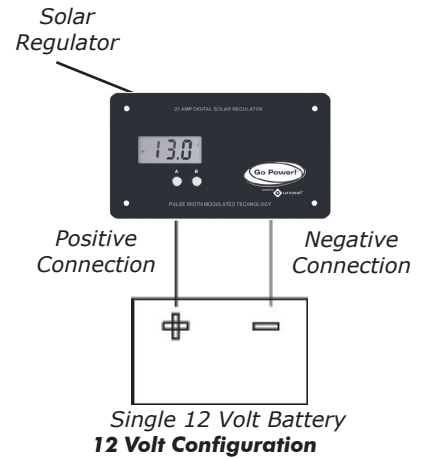

Figure 5
1. Single 12 Volt battery connection (See Figure 5)